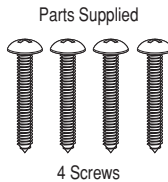

Figure 9B
5. Secure the drawer with the 4 screws supplied. See **Figure 9B**.